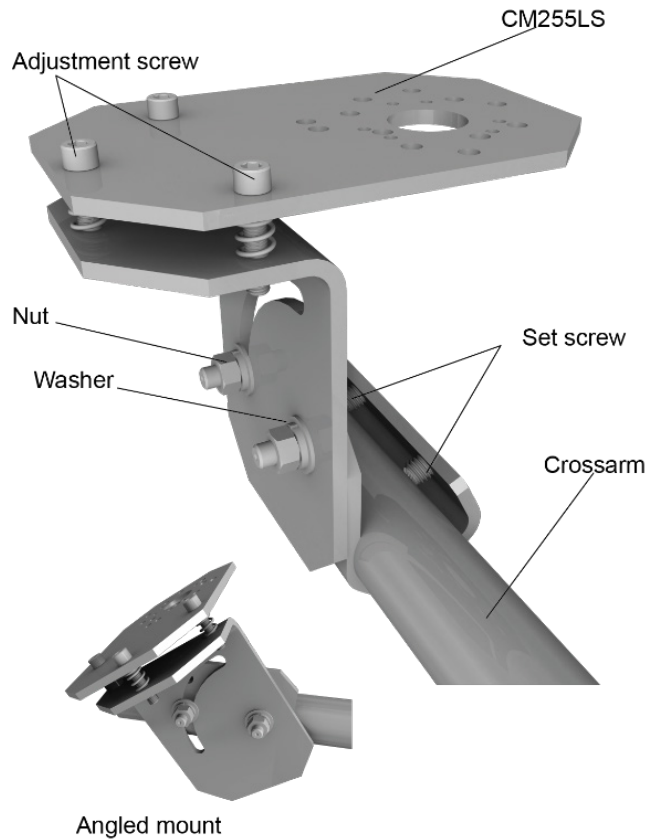

FIGURE 6-4. CM255LS
5. The CM225LS bracket (FIGURE 6-4) uses two set screws to secure the crossarm or the pole in the channel at the base of the bracket. For pyranometers mounted horizontally, ensure the mounting bracket is horizontal in two dimensions. For pyranometers to be mounted at an angle with the CM255 or CM255LS, set the mounting bracket angle to the desired angle prior to tightening the mounting hardware.